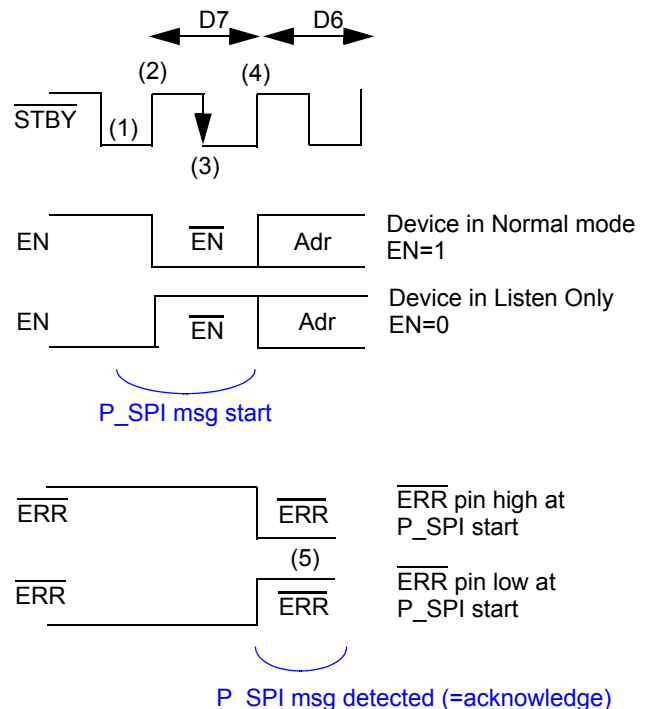

Figure 17. : P\_SPI Message Start
Figure 17 illustrates the P\_SPI operation. A clock signal should be generated on the  $\overline{\text{STBY}}$  pin, EN input operates as Data In (MOSI) and the  $\overline{\text{ERR}}$  output pin operates as Data Out (MISO).
In order to start a P\_SPI operation, the level at  $\overline{\text{STBY}}$  should be low (1), as shown in Figure 17. Bit D7 starts at the rising edge of  $\overline{\text{STBY}}$ . Bit D7 level should be opposite to the level before. D7 is then internally sampled at the  $\overline{\text{STBY}}$  falling edge.